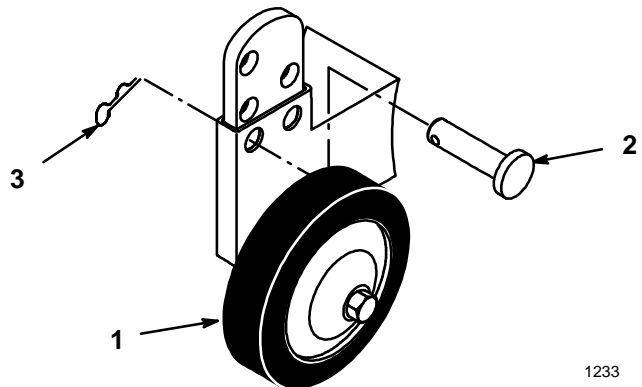

Figure 29
2. To adjust wheel height off the ground, remove the hairpin cotter and pin to change hole location (Fig. 29).
3. Select a hole position so the wheel is approximately 3/8" (9.5 mm) off the ground for the height-of-cut position to be used (Fig. 29).